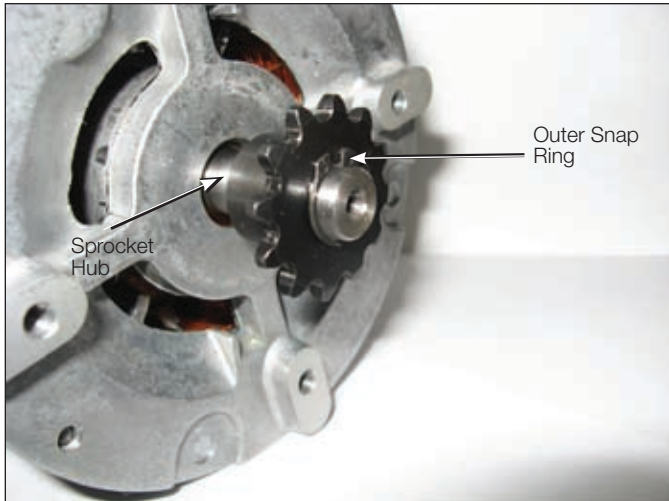

Figure 9.
- With the sprocket hub facing the motor and the sprocket keyway aligned with the woodruff key on the motor shaft, slide the sprocket onto the motor shaft until the hub is against the snap ring. Install the second snap ring into the outer snap ring groove on the motor shaft using a snap ring pliers. Refer to Figure 9.